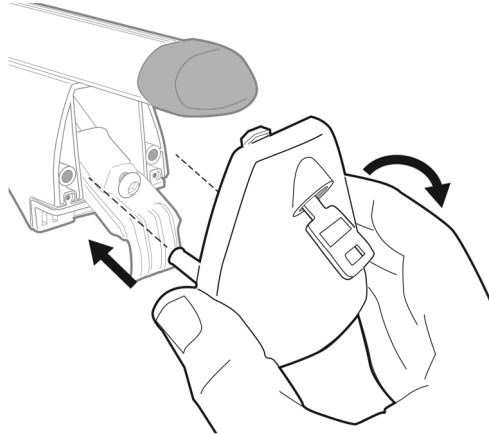

Fig. 8
5. Replace the lock on each end of the roof bars Figure 8, pushing the prongs firmly into the holes. Lock the roof bars with the supplied key and remove the key from the lock.